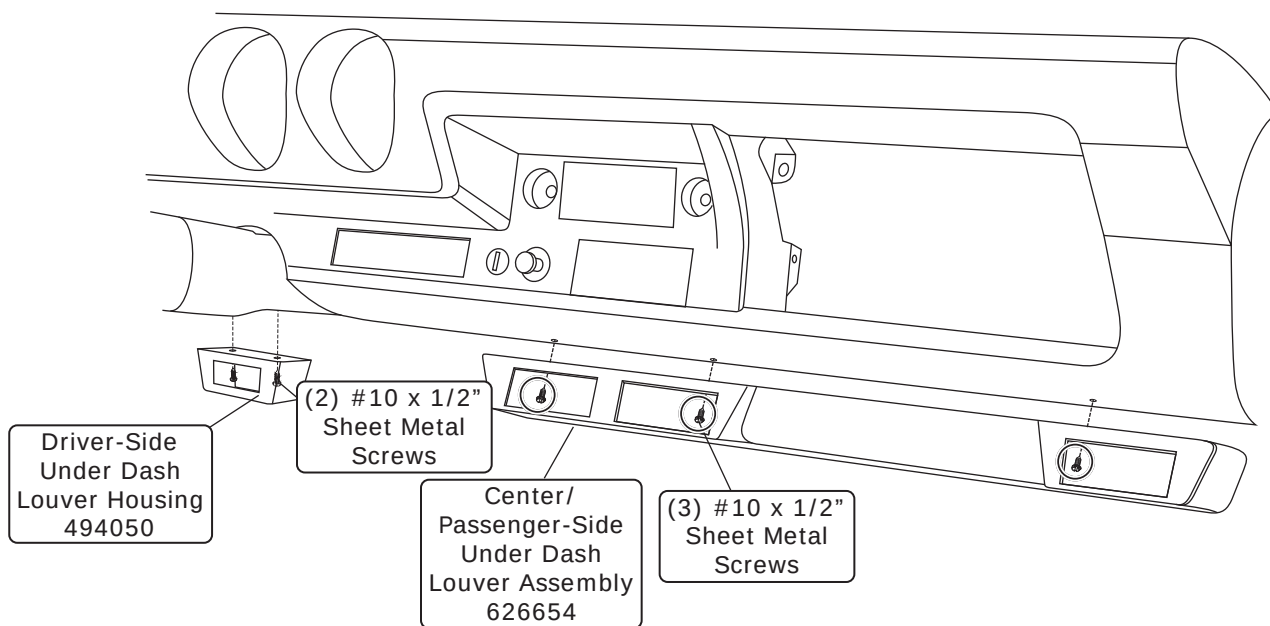

Figure 1
1. Install the louver housings under the dash as shown in Figure 1, below.